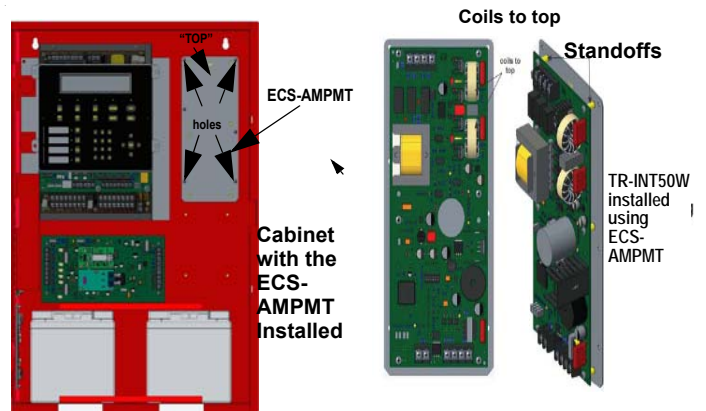

Figure 3 Mounting the TR-INT50W
5. Mount the ECS-AMPMT into the cabinet using the six supplied screws. Position the board with the “Top” side up. (See Figure 3).
6. Secure the TR-INT50W onto the six standoffs, ensure the two coil parts are placed at the top, and on the right side of the ECS-AMPMT. See Figure 3 for the coil position.